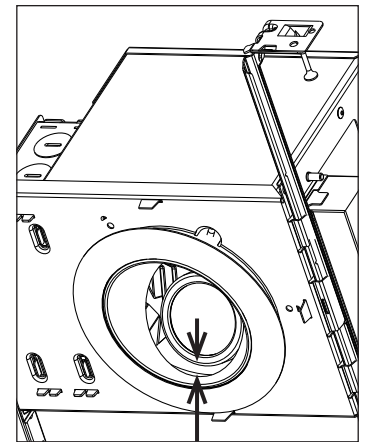

Figure 13
Step 4. After the fixture is aimed, the trim needs to be oriented correctly and installed in the housing. If the trim is an "angle cut" trim, it is necessary to orient the portion of the trim that is lower near the optic (Fig. 13).